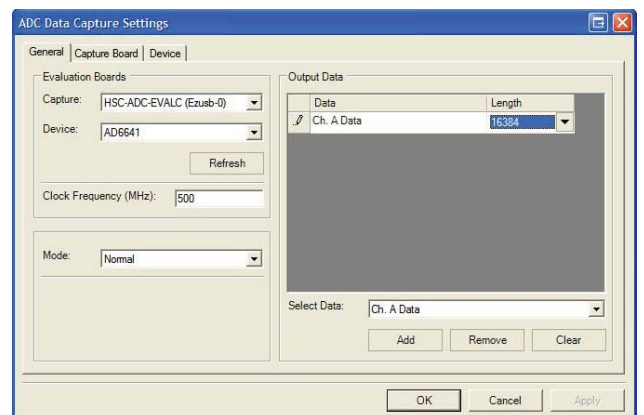

Figure 9. General Settings Tab
4. In the **Output Data** panel of the **General** tab of the **ADC Data Capture Settings** box, set **Length** to **16384** (see Figure 9).